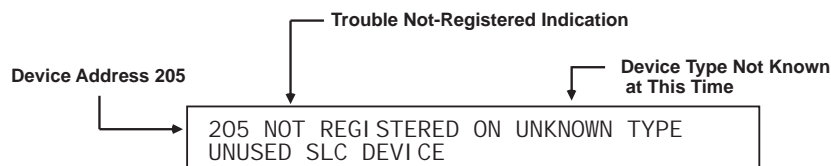

Figure 3-49. Typical Device Not Registered Message
3. All of the SmartOne/DS Series devices connected to the SLC will report a not-registered trouble message similar to the message shown in Figure 3-49: